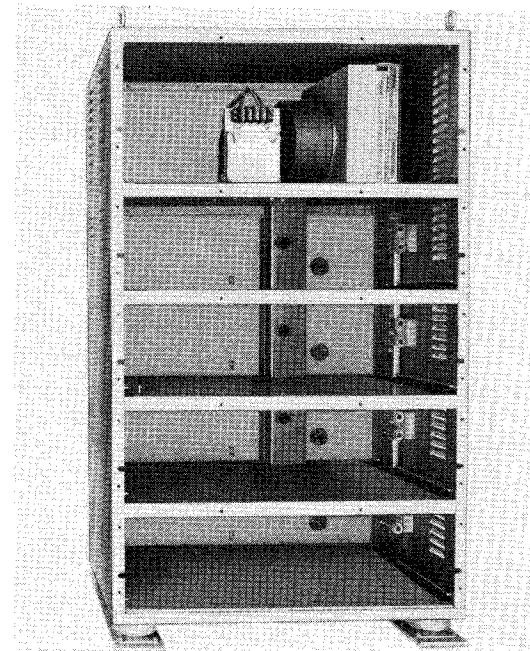

Figure 1-4. Cabinet, Electrical Equipment
e. CABINET, ELECTRICAL EQUIPMENT CY-1670/SRA.—Cabinet, Electrical Equipment CY-1670/SRA (see figure 1-4) consists of a steel cabinet with five decks, which are, from top to bottom, deck A, deck B, deck C, deck D, and the bottom deck.